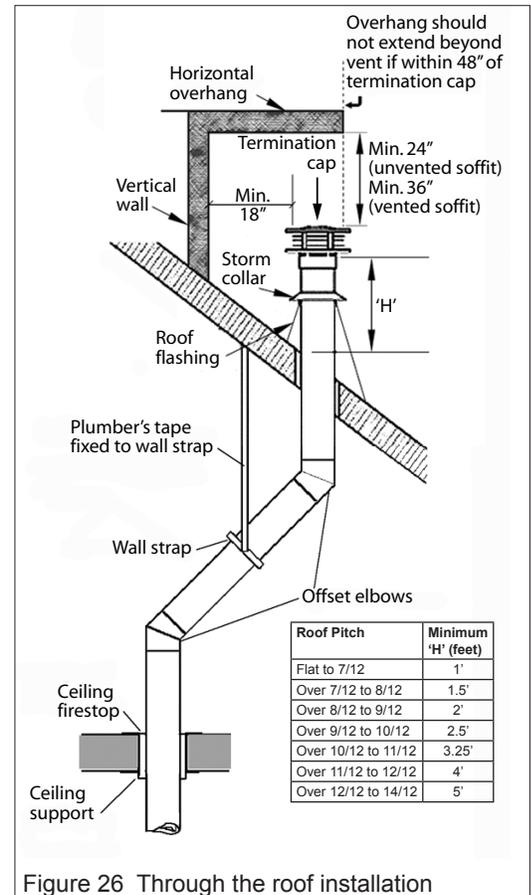

Figure 26 Through the roof installation
- Determine the position where the vent will pass through the roof. If directly above the position where it penetrates the ceiling, drop a plumb from the roof to the small hole in the ceiling and mark the roof at this spot. If rafters or other obstructions will prevent a vertical exit or if clear attic space is desired, the roof outlet can be offset using 45° elbows. See figure 26.
- Fit vent accessory elbows and pipe lengths as required up through ceiling support boxes and firestops. If installation includes offset, support the offsetting pipes every 3’ (1 m) with wall straps. See figure 26.